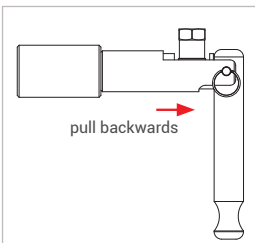

Figure 5
- ▶ Pull lightly on the connector (red arrow *Figure 5*) in the direction opposite that of the connection to make sure that the connector is firmly in place.